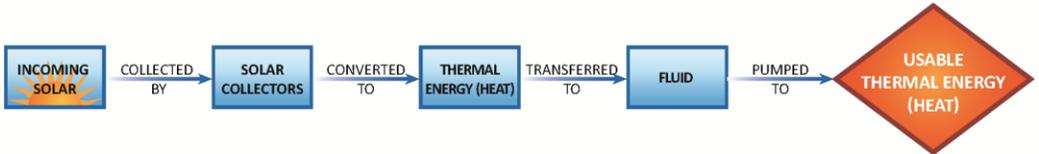
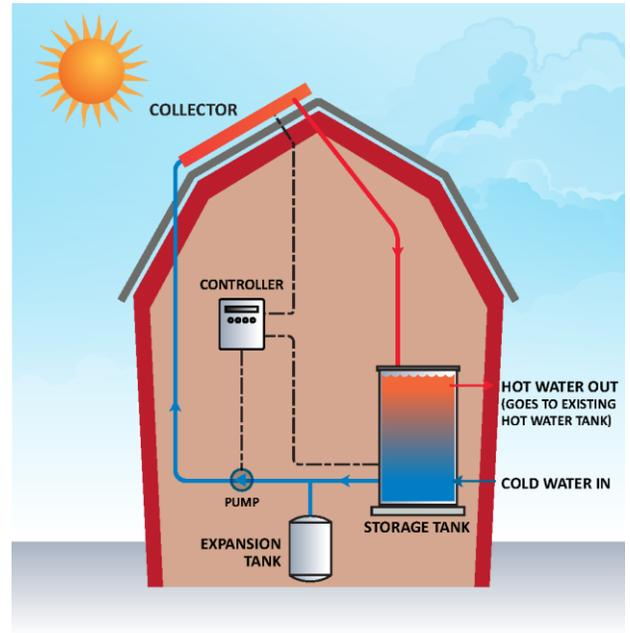

Figure 1. Flow Diagram of How a Solar Hot Water System Works
Figure 2. Drawing of a Solar Hot Water System
**Solar Hot Water** systems are used to preheat either potable or process water using the sun's energy. This type of system is useful for agricultural or agri-food operations that have a daily use for hot water such as dairy farms. These systems can also be used in operations that use radiant water space heating 10 months of the year such as poultry barns. Figure 1 is a simple flow diagram of how a solar hot water system works and Figure 2 is a drawing of a solar hot water system.